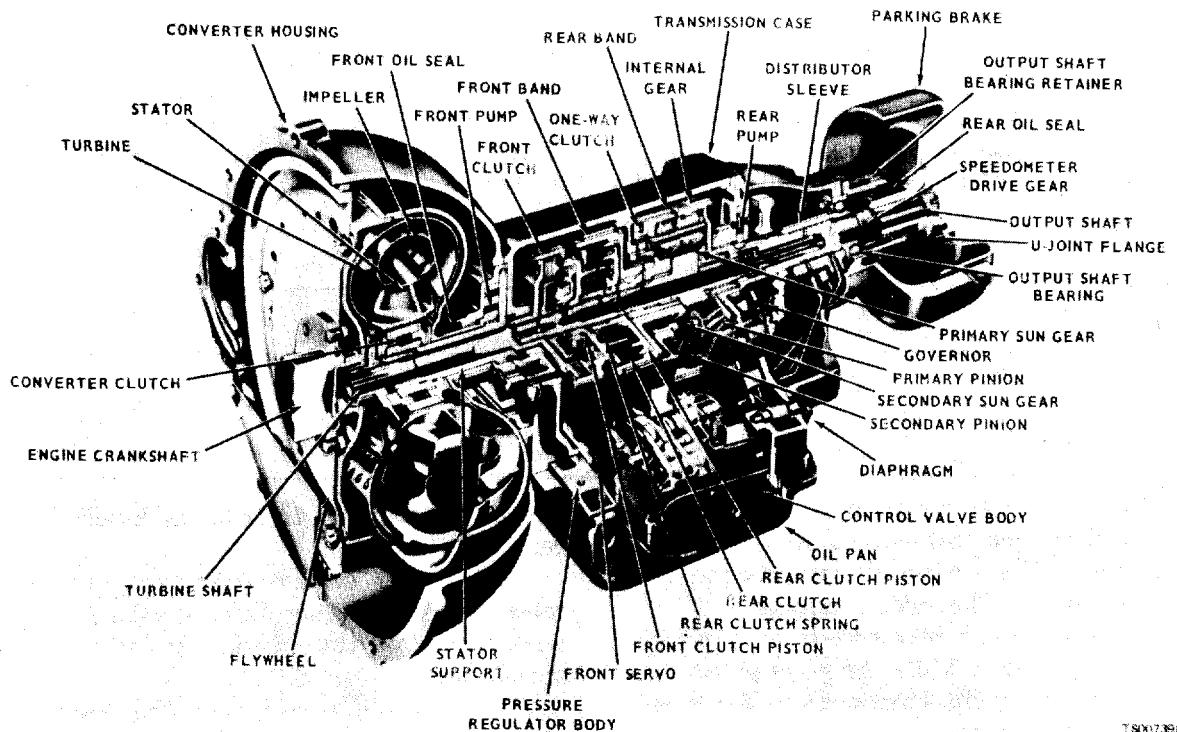

Figure 7-1. Transmission Cutaway.
b. The transmission consists essentially of a torque converter, planetary gear train, two multiple disc clutches and a hydraulic control system. Figure 7-1 shows all the components of the transmission.